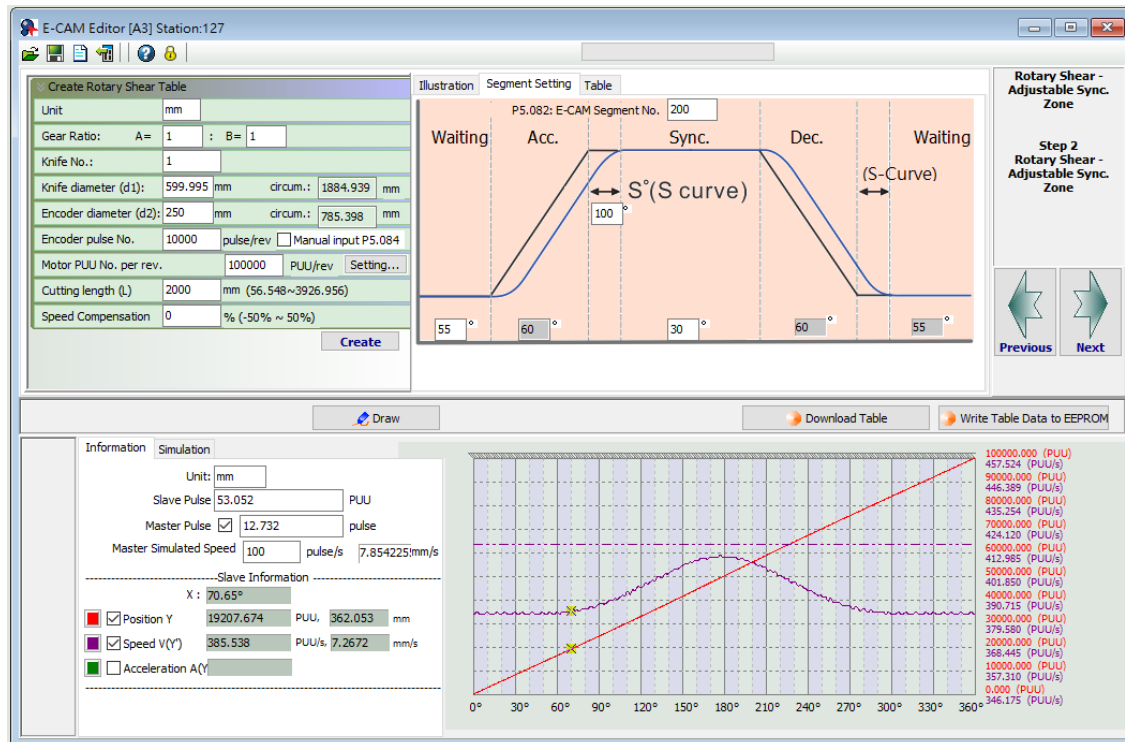

Figure 7-106 SureServo2 Pro setting interface for [Rotary Shear - Adjustable Sync. Zone]
This table creation method is for generating an E-Cam curve with adjustable synchronous speed zone. Use SureServo2 Pro to create the table. The parameter setting for the rotary shear curve is similar to the setting of that without the synchronous speed zone, as shown in Figure 7-106. The software automatically limits the cutting length by referring to the ratio (R) of the cutting length (L) and the arc length between cutter ends (a); $R = L / a$.